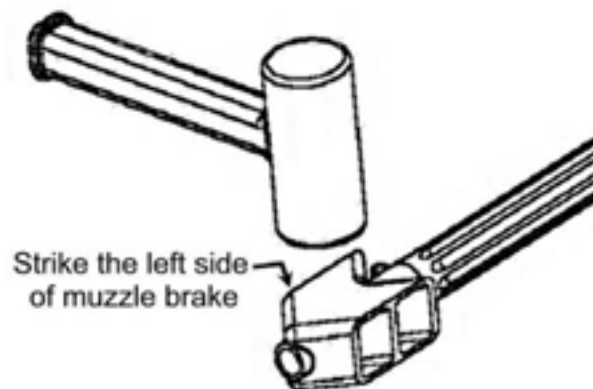

Figure 2-17b. Removing muzzle brake
- (2) Begin by facing the rifle muzzle looking down the barrel. Place RH side muzzle brake on a hard wooden worktable while suspending aft end of rifle. The LH side of the muzzle brake should be approximately 1/4 in (6 mm) above table.
- (3) Use a large dead blow hammer to strike the left side of muzzle brake. (See Figure 2-17b) When muzzle brake is loose, unscrew by hand.